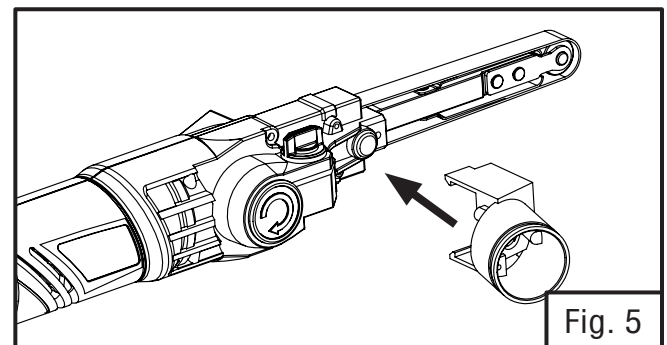

Fig. 5
## USING DUST EXTRACTION (FIG. 5)
1. Match the groove on the dust extractor port with that on the sander and attach the dust extractor port on the tool (Fig. 5). Check that it is securely installed.